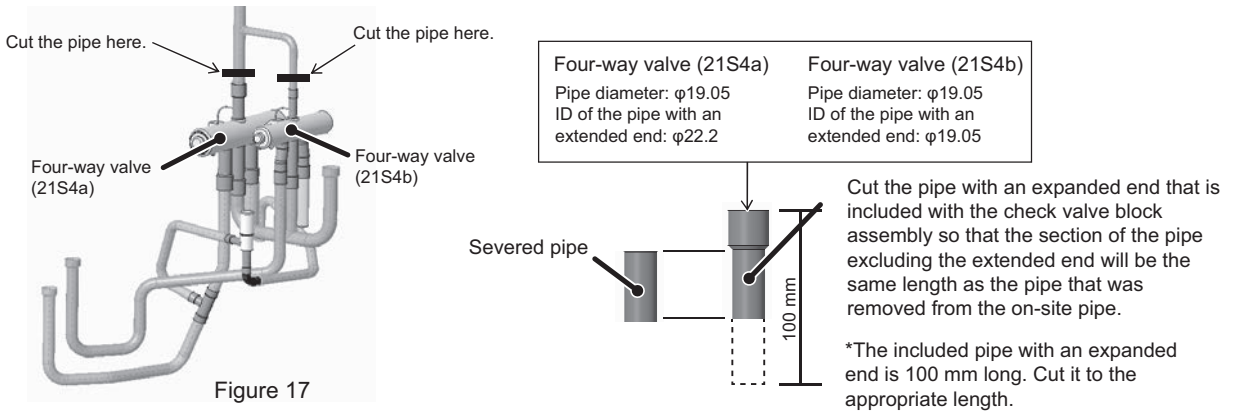

Figure 17
- (17) To make it easier to connect four-way valves (21S4a and 21S4b), cut the pipes above four-way valves (21S4a and 21S4b) with a pipe cutter. Cut the pipe with an expanded end that is included with the check valve block assembly to the same length as the pipe that was removed from the on-site pipe. (See Figure 17.)